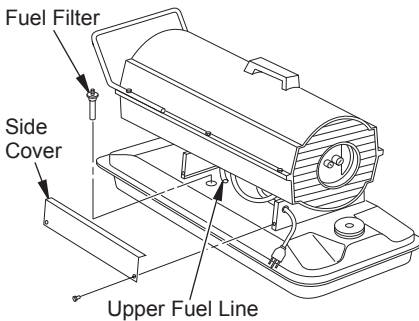

Figure 15 - Fuel Filter Removal, 40/55T/70T Models
3. Pull upper fuel line off fuel filter neck (see Figure 15 or 16).
3. Remove 4 side cover screws with a 5/16" nut driver. Remove side cover (see Figures 15 and 16).
- Replace side cover (see Figures 15 and 16, page 11).
- Remove side cover screws using 5/16" nut driver (see Figure 15 or 16, page 11).
2. Remove side cover screws (4) using 5/16" nut-driver to expose ignition control assembly (see Figure 15 or 16, page 11).